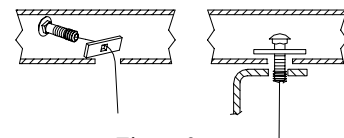

Figure 3.
4. Feed the second spacer and bolt thru the enlarged hole and back out as shown in Figure 3. Leave the pullwire attached. Repeat on both frame rails.